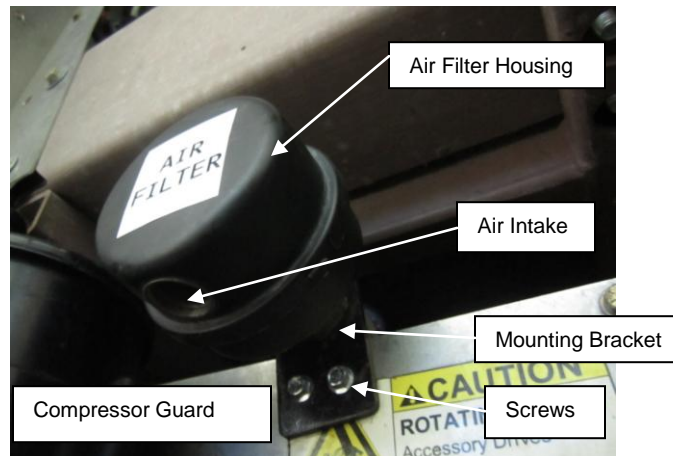

Figure 3: Air Filter Housing Mounted.
7. Drill two .25" Dia holes in the air compressor guard at the rear of the engine compartment using the mounting bracket as a template and mount the air compressor filter assembly using two bolts NF P/N 10B04016, four washers NF P/N 10W04000 and two nuts NF P/N 41N04000. Use Never Seize NF P/N 5928660 on fastener threads. Figure 3.